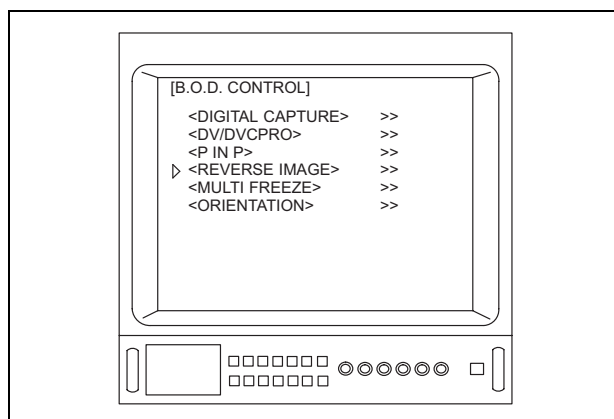

Figure 5.111
4. Depress the menu switches " or ", or the " key on the keyboard to move the arrow " to "REVERSE IMAGE" (see Figure 5.111).
Depending upon which B.O.D.s are installed in the OTV-S7V, the menu shown in Figure 5.111 may appear different from that displayed on the video monitor.